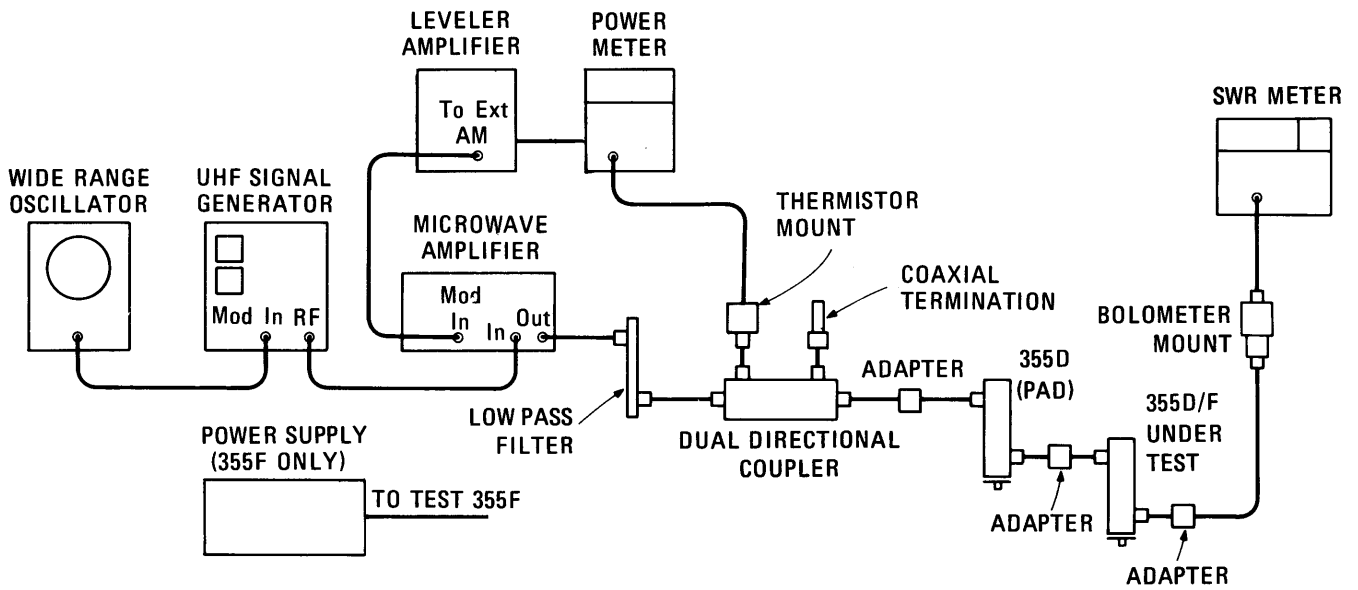

Figure 7. 355D/F RF Attenuation Test Setup
1. Set UHF Signal Generator to 1000 MHz. Set the Microwave Amplifier GAIN full ccw to avoid bolometer damage and connect the equipment as shown in Figure 7.